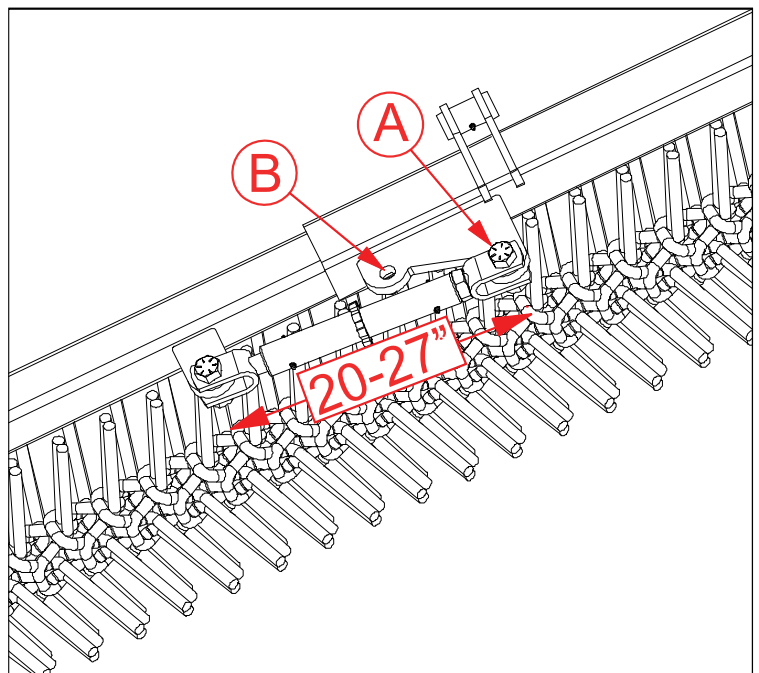

FIGURE 4: Turnbuckle
3. Remove the chain adjustment tools from their mount (fig. 4).